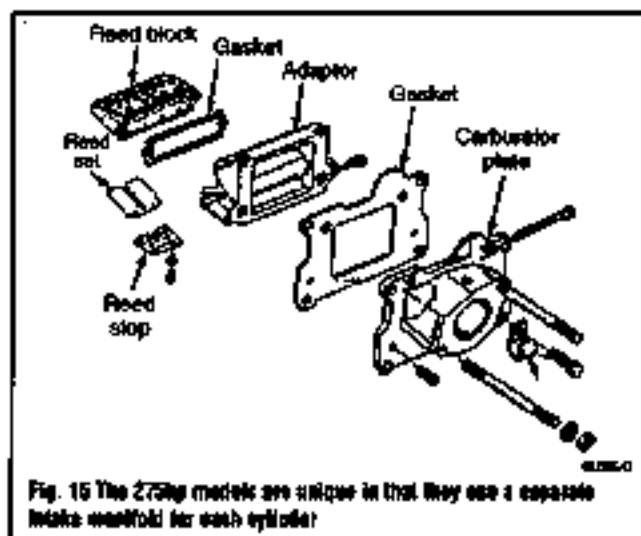

Fig. 15 The 275hp models are unique in that they use a separate intake manifold for each cylinder.
Fig. 15 The question of whether or not a powerhead is worth rebuilding is largely a subjective matter and one of personal worth. This powerhead is not worth much in its present condition.
• See Figure 15